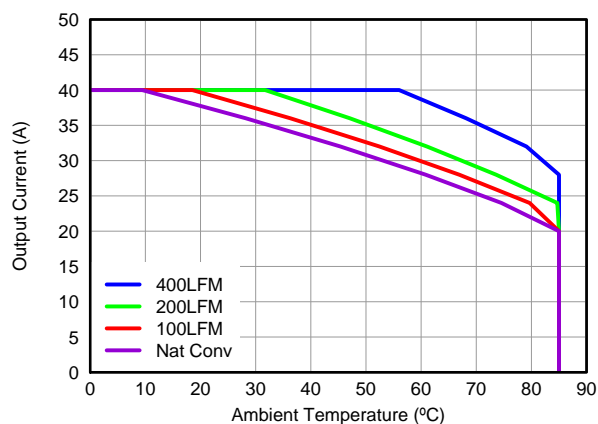
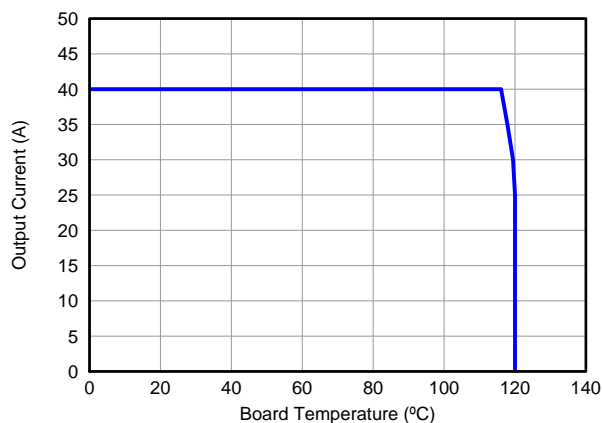

Figure 3. Safe Operating Area – PCB Vertical Mount⁽¹⁾
Figure 5. Typical Safe Operating Area⁽¹⁾
The SOA curves in the CSD87353Q5D data sheet provides guidance on the temperature boundaries within an operating system by incorporating the thermal resistance and system power loss. Figure 3 to Figure 5 outline the temperature and airflow conditions required for a given load current. The area under the curve dictates the safe operating area. All the curves are based on measurements made on a PCB design with dimensions of 4" (W) x 3.5" (L) x 0.062" (T) and 6 copper layers of 1 oz. copper thickness